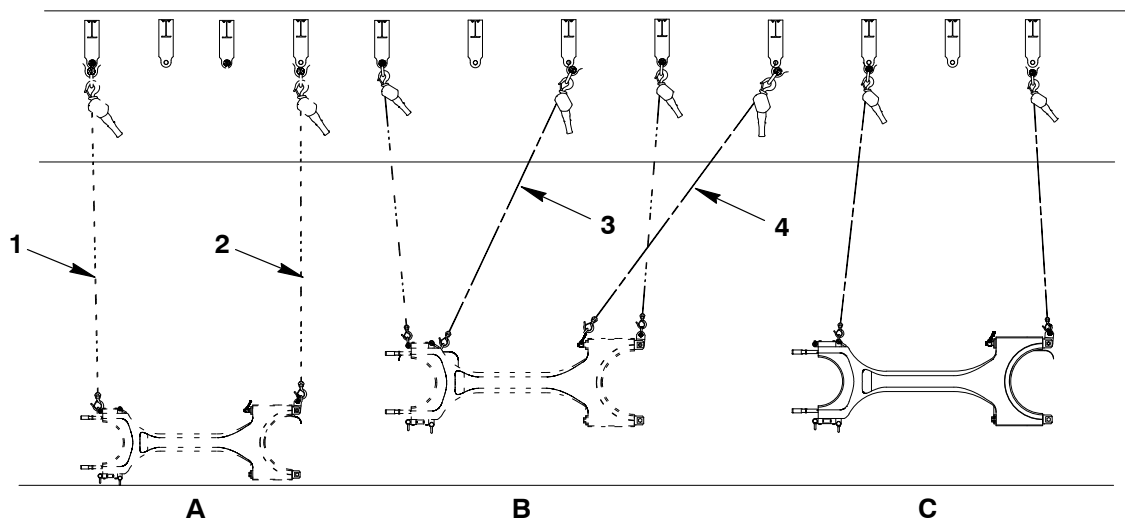

Fig. 10
- 5) Lift the connecting rod (5, Fig. 10) a small distance.
- 6) Attach two more manual ratchets 90146 015 (3 and 4) to the connecting rod as shown in step (B).